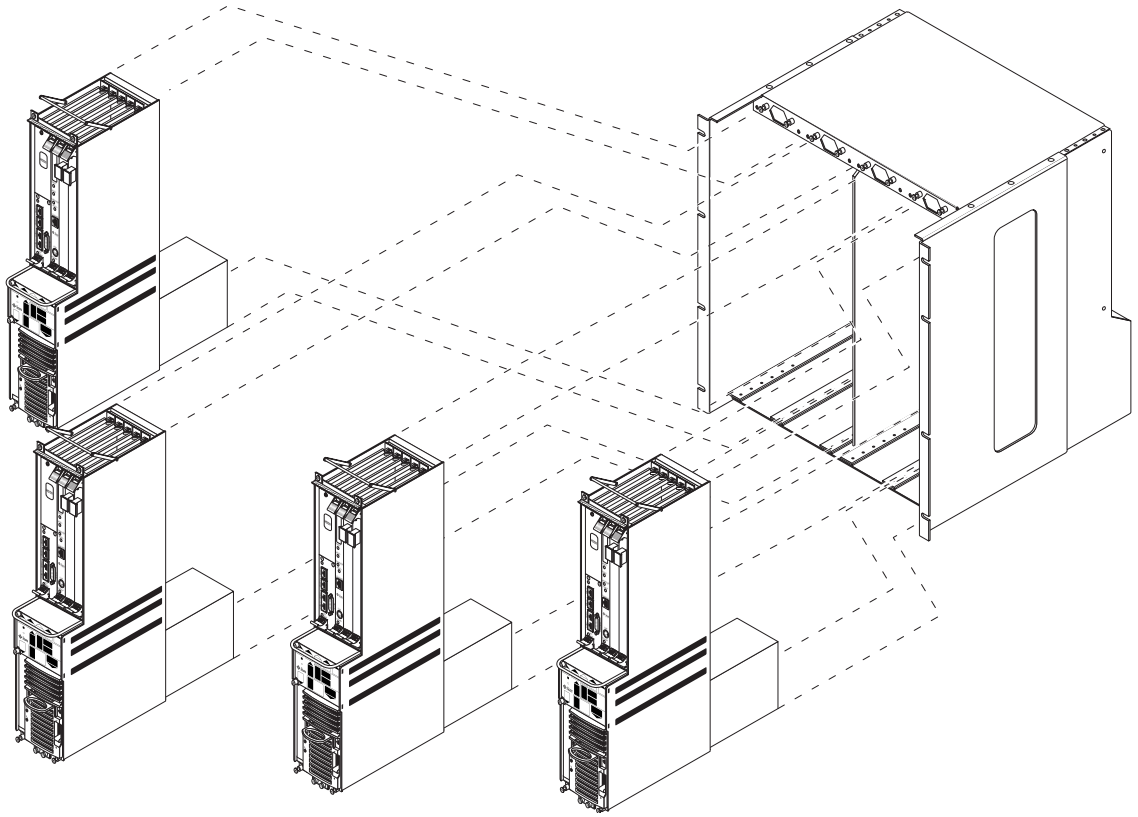

FIGURE 3-4 Four Netra CT 410 Servers in a Chassis
- One to four Netra CT 410 servers (FIGURE 3-4)